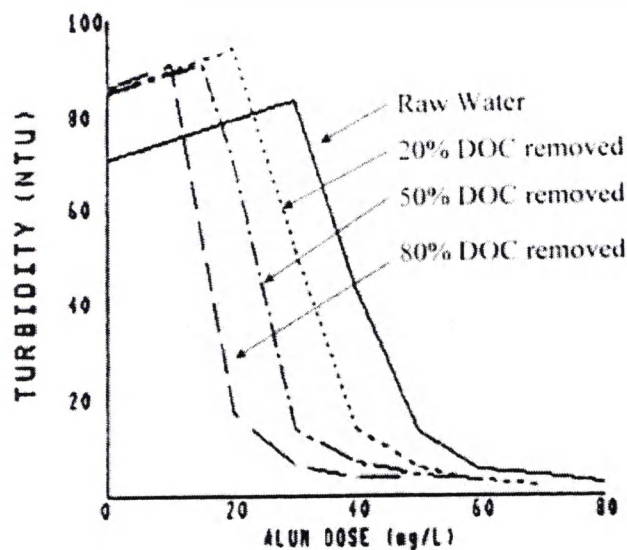

Fig. 2 : XYZ
8. Fig. 2 describes a result of an experiment related to coagulation.